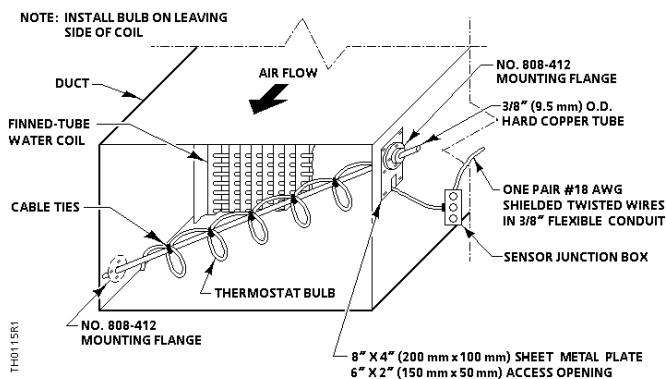

Figure 1. Limited Access Duct Mounting Option.
Figures 1 and 2 show the sensing element arrangements. They provide the fastest response when the element is exposed to cold temperatures. Figure 1 shows the most practical mounting arrangement; it does not require inside access to the duct. The other sensing element arrangements require inside access to the duct.
Required for limited access duct mounting option (See Figure 1):
The duct sensing element is used to detect temperature stratification in the duct. For proper operation, be sure to mount the sensing element at an angle, as shown in Figure 1.
1. Position one P/N 808-412 mounting flange on the opposite side of the duct (near the bottom) from where the 8 × 4-inch (200 mm × 100 mm) mounting plate is to be mounted. See Figure 1. Mark the four screw holes and the 1/2-inch (13 mm) center hole of the mounting flange.
5. Cut a vertical access hole six inches high × two inches wide (150 × 50 mm) (near the top of the duct) on the side opposite of the previously mounted mounting flange (see Figure 1). Mark and drill mounting screw holes for the sheet metal plate.